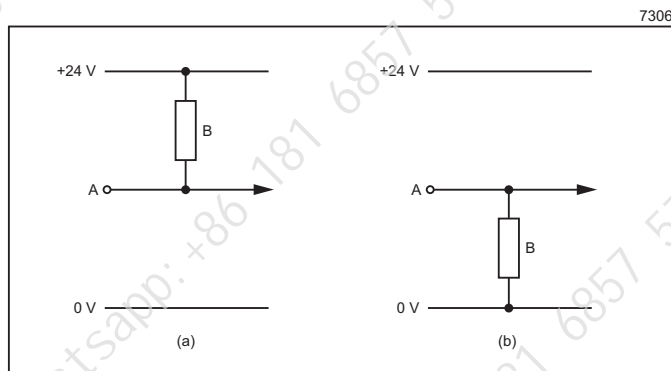

Figure 47. Output connections
Figure 47 shows how you connect a load (B) to an output (A) that is set to the 'Sink' option (a) or the 'Source' option (b).